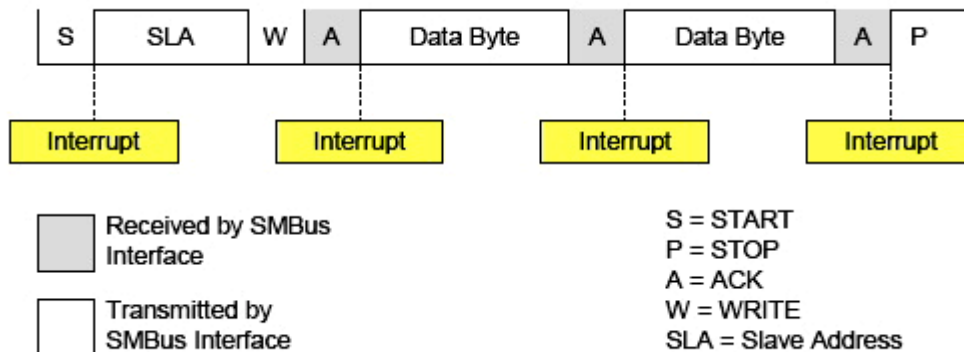

Figure 4.11 - Typical Master Transmitter Sequence
There are two modes; (1) Master Transmitter Mode is used to talk to a slave device and (2) Master Receiver Mode is used to listen to a slave device. The Master Transmitter Sequence (see *Figure 4.11*) is to send a start signal and to send a byte with a 7-bit slave address with the R/W bit low. When the Master sends the R/W bit low, which indicates that the Master will write to the slave, the Slave should acknowledge (ACK). The Master will then send one byte of data, check for ACK, repeat till done, and send a stop signal in the end. Note that in our implementation, the Master must know how many bytes to write.